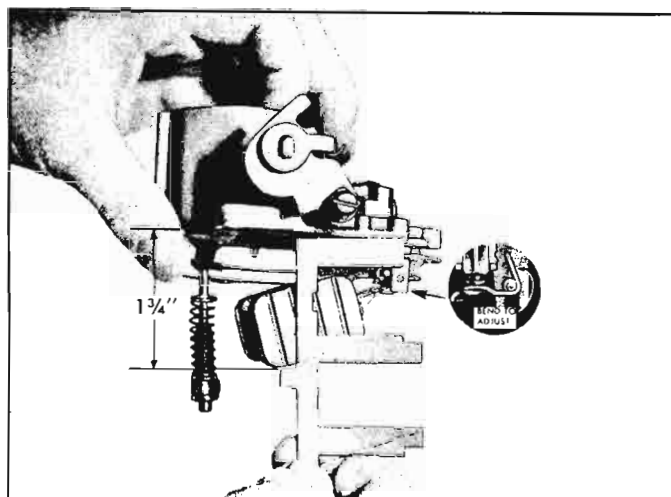

Fig. 9-25—Checking Float Drop
4. Hold bowl cover in an upright position and measure the distance from the gasket to the bottom of the float, as shown in Figure 9-25. Tool J-8370 includes a tab with which to make this check. This dimension should be $1\frac{3}{4}$ ". Bend the tang at the end of the float hinge arm to obtain the correct drop, recheck setting after this adjustment.